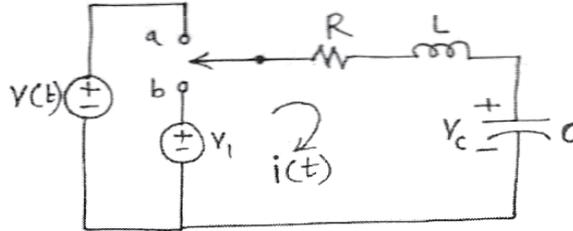

Fig. 5
- b) In the network shown in Fig. 5, switch is moved from position a to b at  $t=0$ . Just before this switching the initial conditions were  $i(0^-) = 2\text{ A}$  and  $V_c(0^-) = 2\text{ V}$ . Find the expression for current  $i(t)$  using Laplace Transform method. Assume  $R = 3\ \Omega, L = 1\text{ H}, C = 0.5\ \mu\text{F}, V_1 = 5\text{ V}$ . [6]